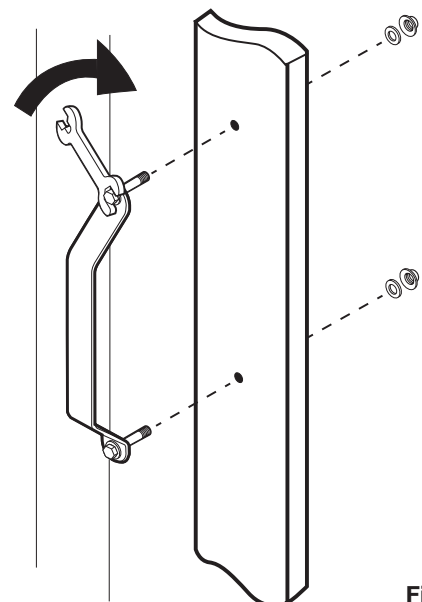

Figure 14
Measure up 52" from the bottom of the door and mark that location. Measure in 2 3/4" in from the edge of the stile and mark this spot. Drill a hole through the stile at the intersection of these 2 marks. Place the handle (P) on the door and insert one of the handle bolts into the top hole in the handle. Put the washer and nut onto the backside of the door and tighten the nut. Do not tighten fully at this point. Using a level to make sure the handle is plumb, mark the location of the bottom hole in the handle. Move the handle aside and drill the second hole through the stile. Put the remaining bolt through the hole in the handle. Put the washer and nut onto the backside of the door and tighten the nut. Use the wrench provided to fully tighten the bolts and secure the handle. See Figure 14.
See Figure 14.